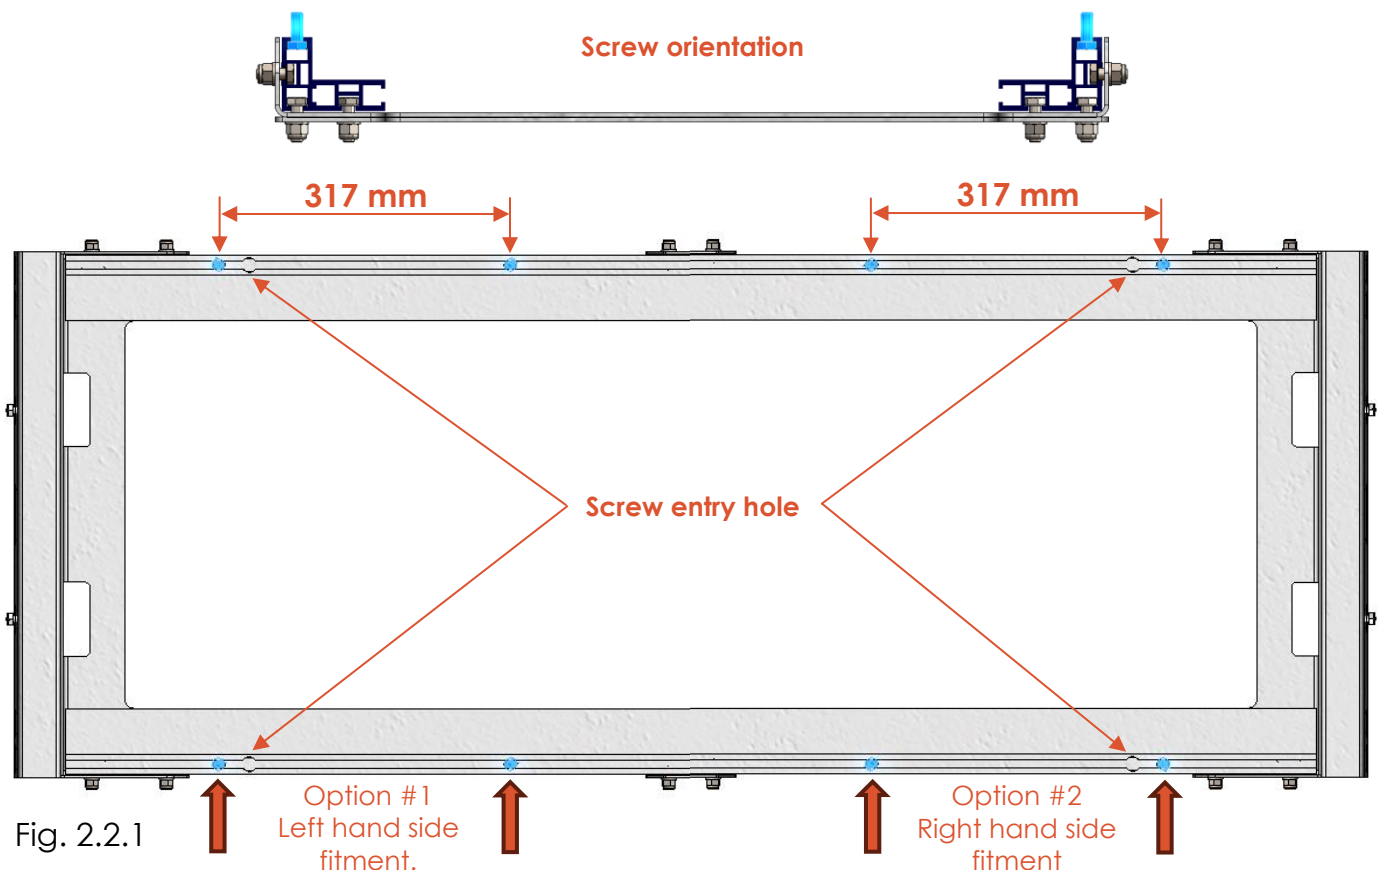

Fig. 2.2.1
- **For the small lock box:** Slide 2 x M8 x 20 hexagonal screws into each top rail on the sides of the ammo box rack. Confirm the spacing between the screws. Fig. 2.2.1